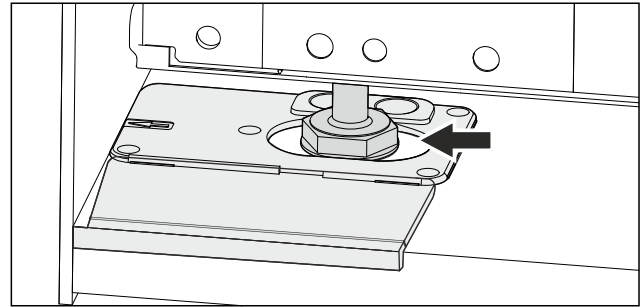

Fig. 42
- Align the appliance using the adjustable feet. Fig. 42 ()